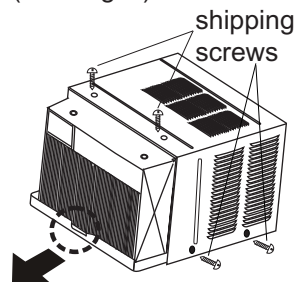

Fig.5
7. Remove shipping screws from top of unit and also on the side by the base if installed (see Fig. 5).